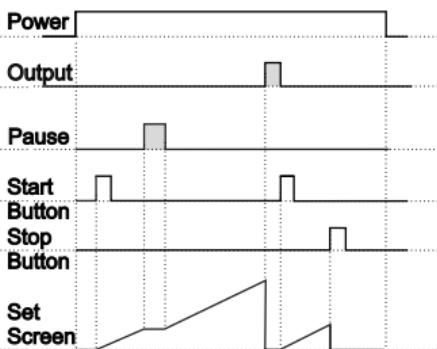

Figure 1.4
1.2.2 If Upcount **dEct** = 0 and **outF** is **oFF** the control diagram is shown in Figure 1.4